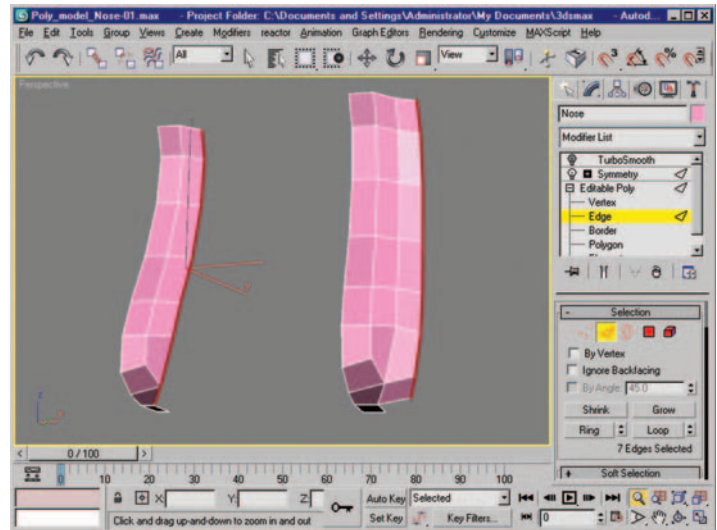

Figure 3.14 Edge selection and the result of shift-dragging the selection.
13. First, select the same six edges you did before, only this time you are also going to select a seventh edge, the edge below the original selection (Figure 3.14, left mesh).
14. Using shift-drag, pull/clone a new edge loop to the side of the existing mesh. Again, we are going to move this edge back a little to create a soft organic slope (Figure 3.14, right mesh).